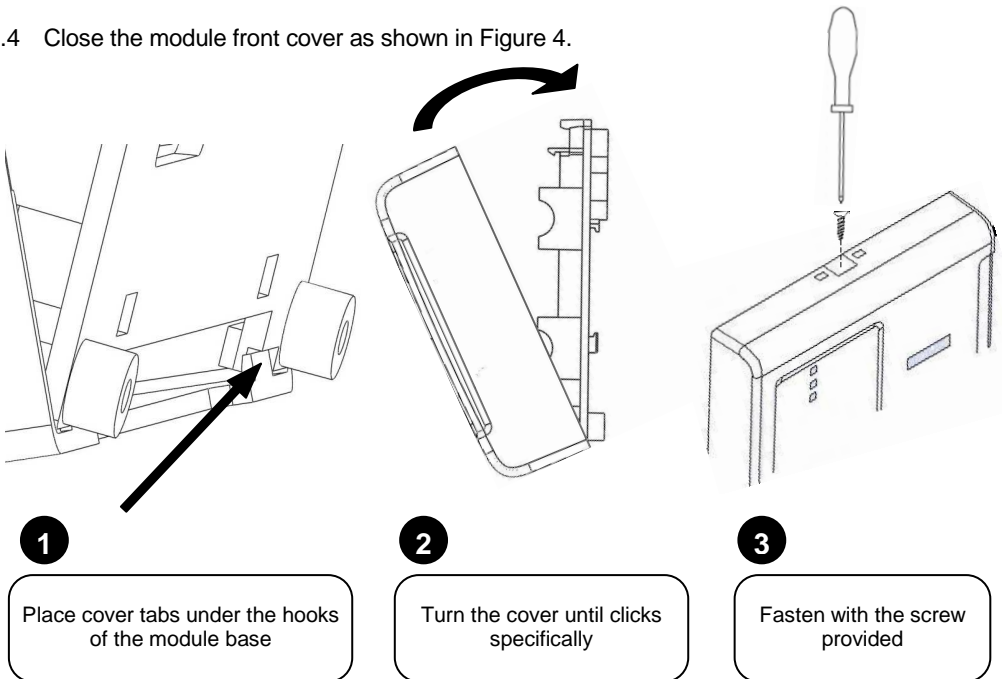

Figure 4. Closing the Module Front Cover
4.4 Close the module front cover as shown in Figure 4.